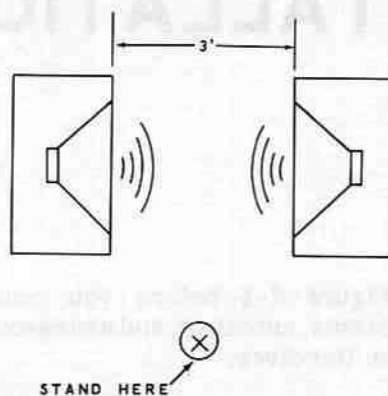

Figure 2-2A
4. Turn the speakers so they face each other and are approximately three feet apart. See Figure 2-2A.
5. As you stand in front of the speakers as shown in Figure 2-2A, note the loudness of the bass notes. Now interchange the two wires of one speaker. When the loudest bass is heard, the speakers are in phase.